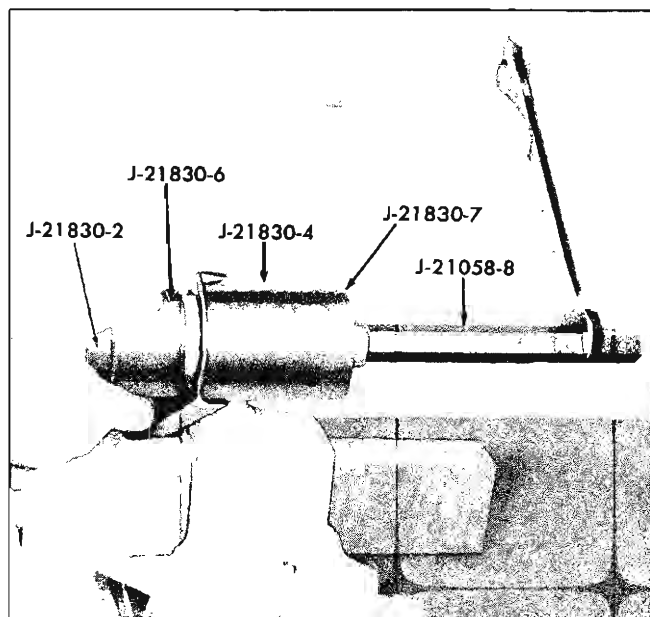

Fig. 22—Upper Control Arm Bushing Installation
5. Position Puller Screw J-21058-15 through J-21830-2 and bushing so that head of screw rests against J-21830-2. Position this assembly in control arm as shown in Figure 22.
6. Install receiver, bridge, thrust bearing and nut to complete installation as shown in Figure 22.